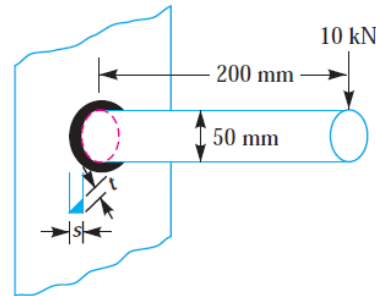

Figure 5
- Q6.** A 50 mm diameter solid shaft is welded to a flat plate as shown in Fig. 5. If the size of the weld is 15 mm, find the maximum normal and shear stress in the weld.